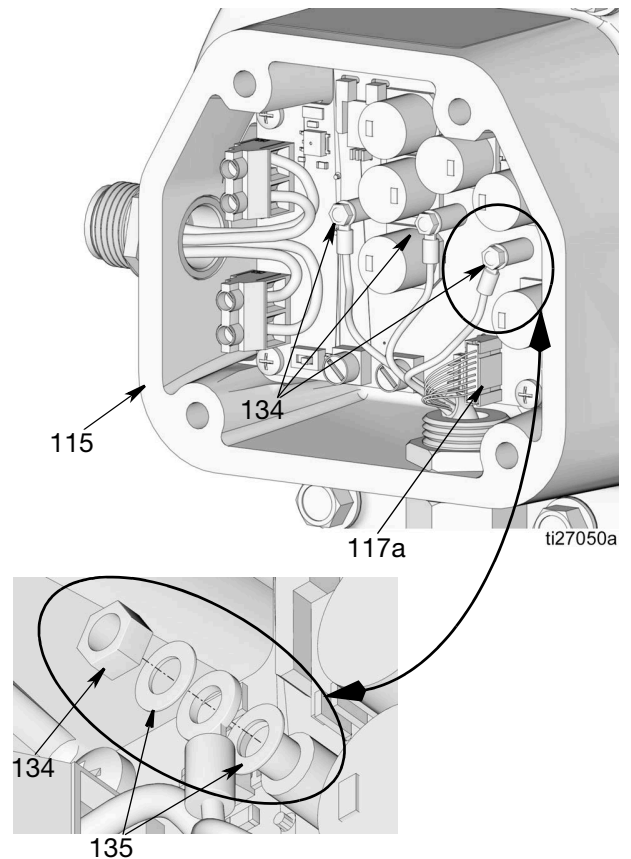

FIG. 71
4. Connect sensor cable (117a) (FIG. 71).